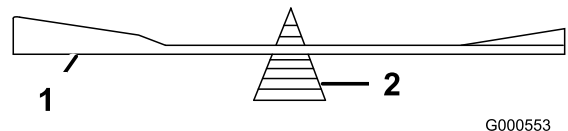

Figure 47
2. Check the balance of the blade by putting it on a blade balancer (Figure 47).